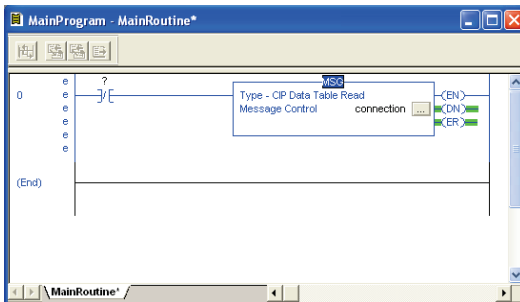

Figure 72: MainRoutine
- e) Click “OK” to close the MSG Configuration dialog. At this stage, MainRoutine should look like Figure 72.